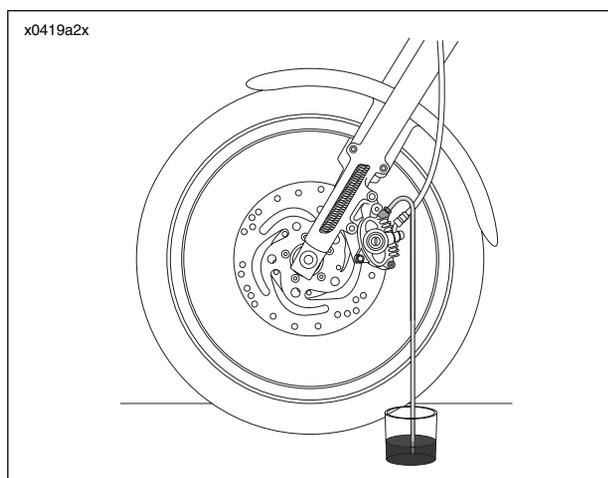

Figure 1-18. Bleeding Hydraulic System
5. See Figure 1-18. Install end of a length of plastic tubing over caliper bleeder valve. Place free end of tube in a clean container.